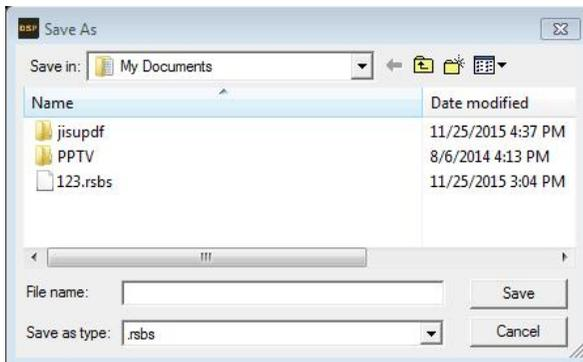

Figure 3.4.6
Step 2: Click "single File " will bring up the file after item Save As dialog window (Figure 3.4.6).